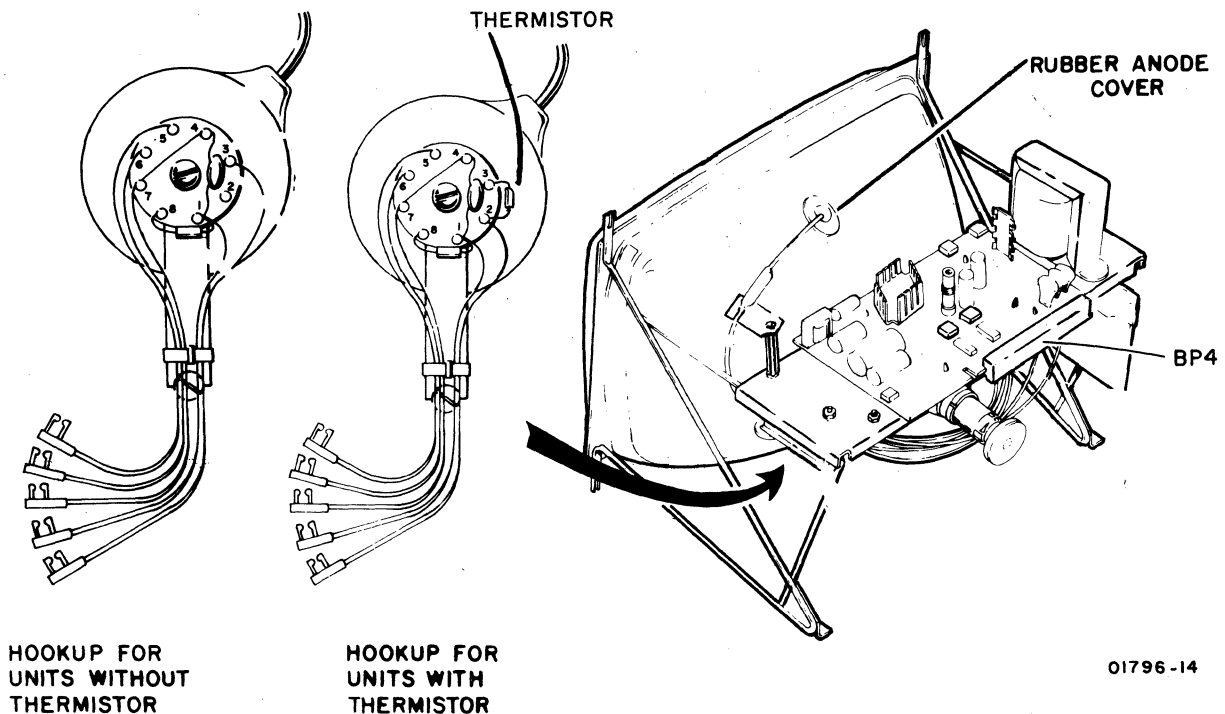

Figure CRT1. High-Voltage Pin Numbers
- 4) Remove transformer's primary wires from connector BP4. Do this by inserting end of paper clip into top of connector between flag-type terminal and insulation to release each wire (figure CRT21). Tag/mark wires according to BP4 numbers (figures CRT1 and CRT2).